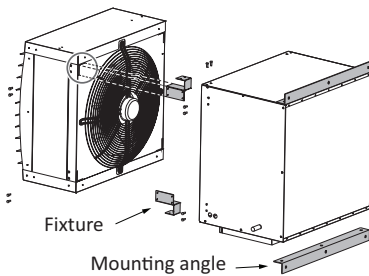

Figure 6. Mounting brackets for wall
- Pull the motor cable through one of the cable inlets on the access side. See figure 6.
A slot at the end of the damper shaft marks the position of the dampers plate. See figure 6.